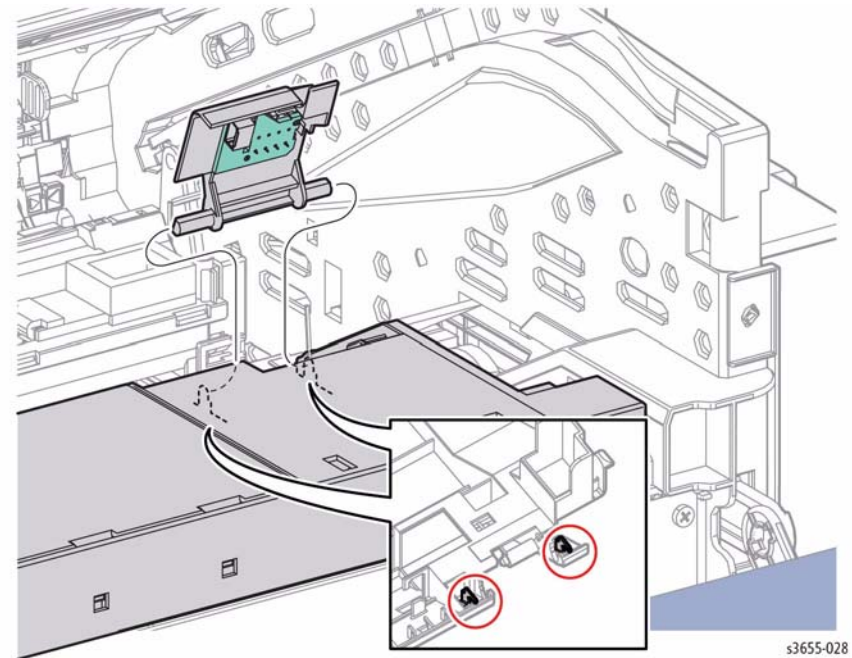

Figure 1 Remove the Toner CRUM Assembly
- Refer to Figure 1 to locate and release the clip to open the Toner CRUM Assembly and disconnect the assembly.